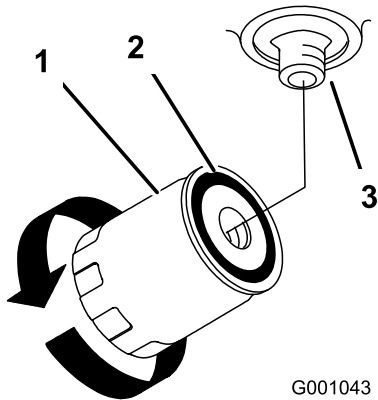

Figure 71
7. Apply a thin coat to the rubber gasket on the replacement filter (Figure 71).
clockwise until the rubber gasket contacts the filter adapter, then tighten the filter an additional 1/2 turn (Figure 71).